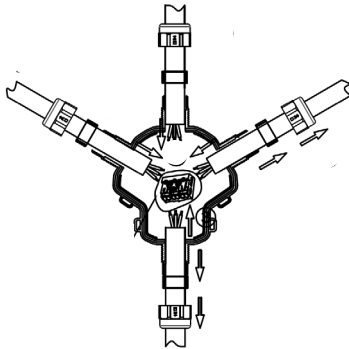

Fig. 3
- Connect the connector socket and connector plug together and tighten to 2.5Nm (see Fig. 3)